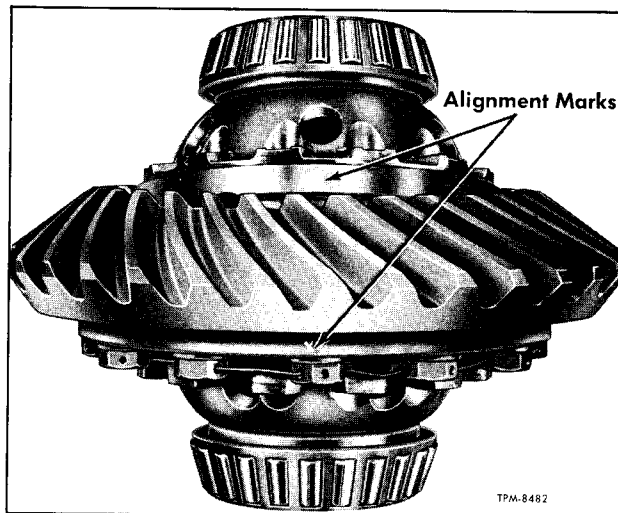
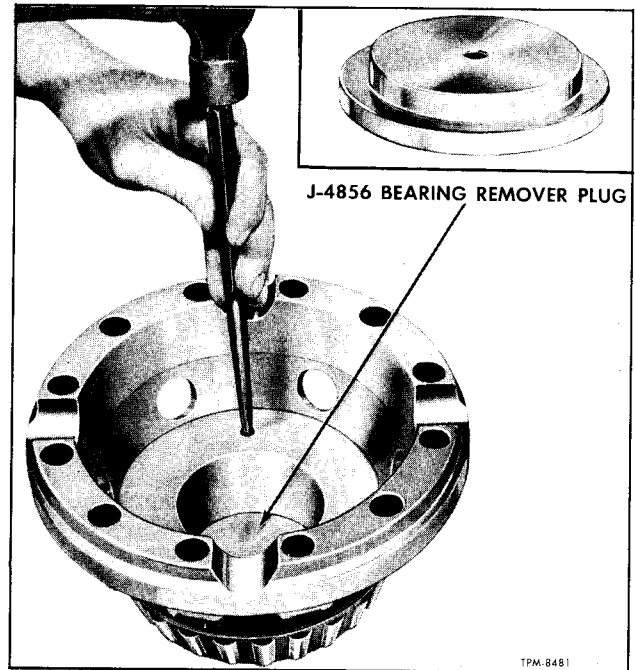

Figure 6—Differential Case Alignment Marks
Figure 7—Differential Bearing Removal
1. Mark both halves of differential case (2) so halves may be reassembled in original positions (fig. 6).
2. Remove lock wire and nuts (5) from bolts (49) which hold the two halves of differential case (2) together; then separate halves of case.
3. Remove side gears (13), thrust washers (12), spider (3), pinions (48), and thrust washers (4) from differential case.
4. Using differential bearing remover plug (J-4856) as shown in figure 7, drive bearing evenly off each differential case half, using a long punch and hammer as illustrated.
5. Remove lock wire (14) from cap screws (15), then remove cap screws holding drive gear (1) to differential case. Remove gear from case.